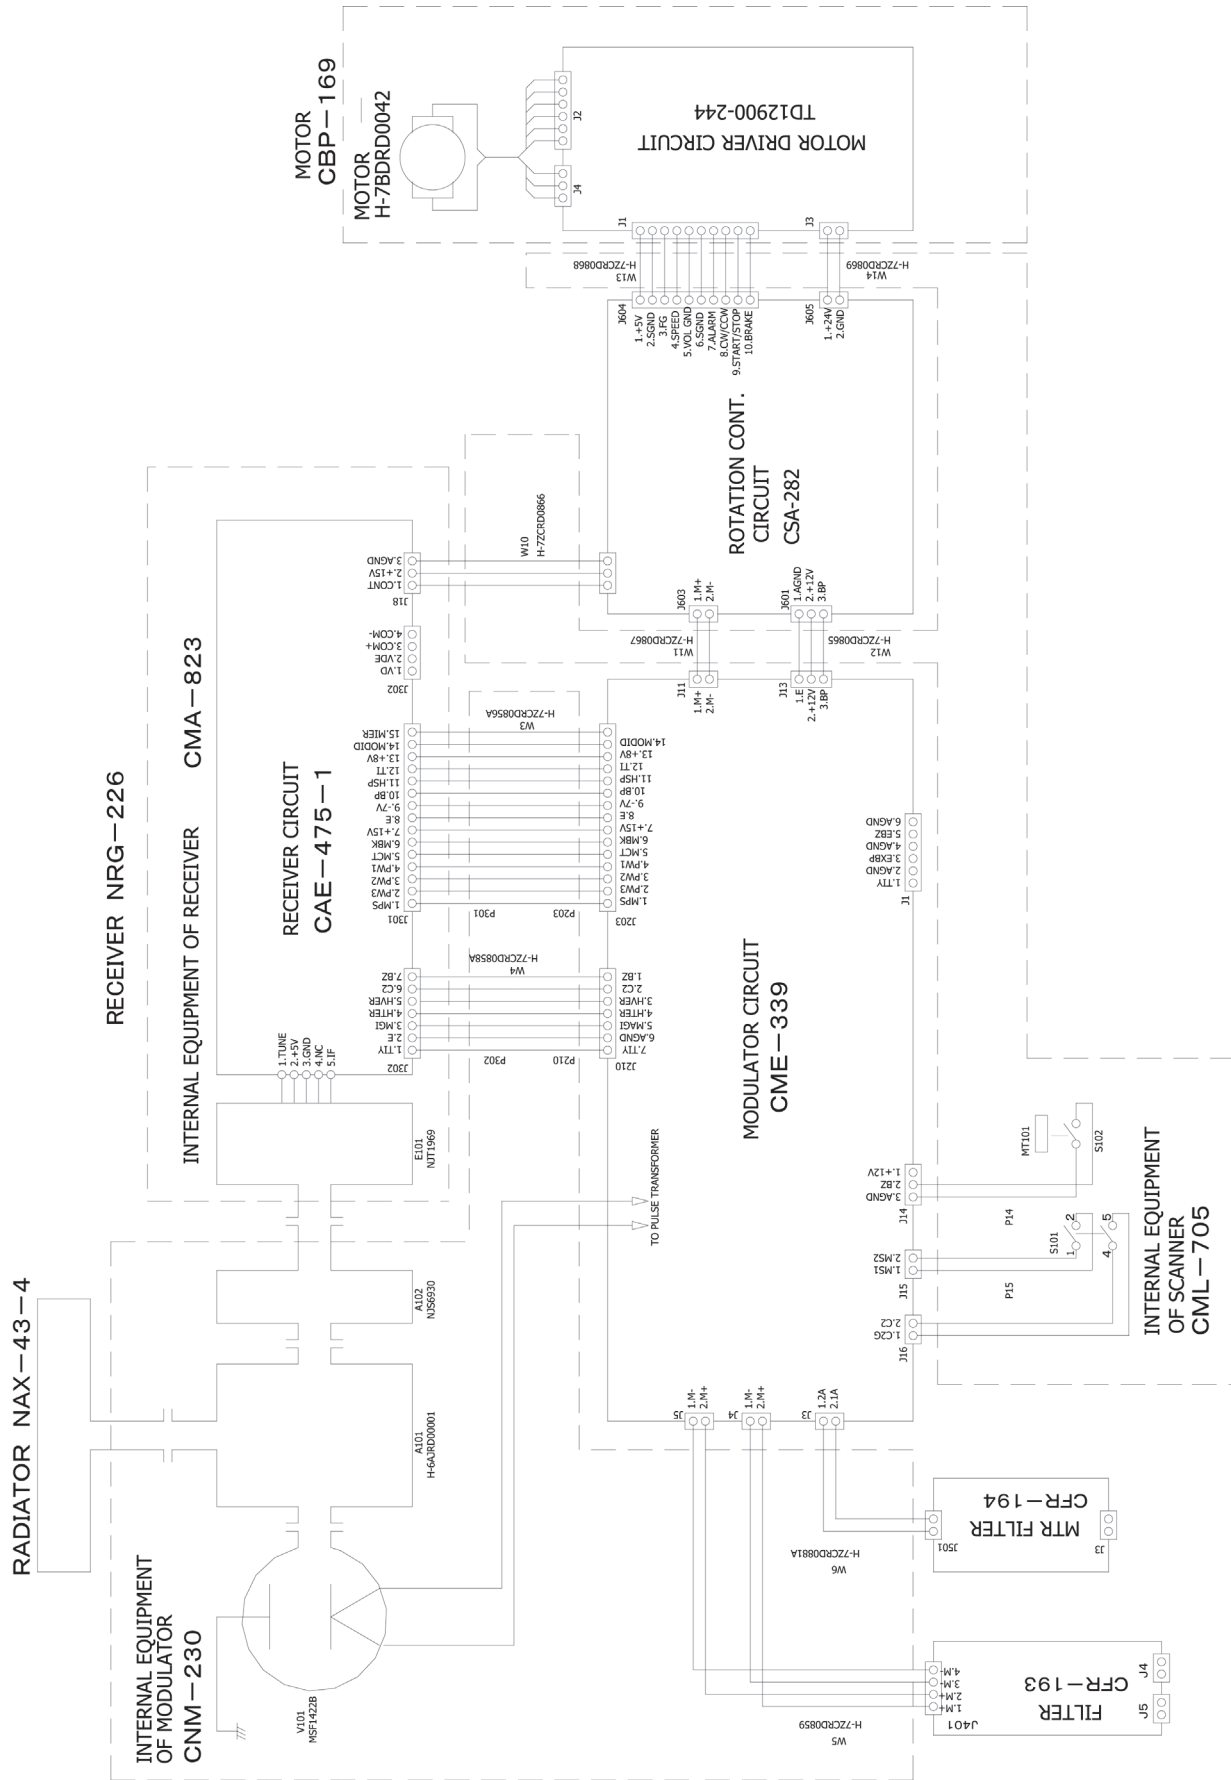

Figure 12 NKE-2062HS Scanner Unit Interconnection Diagram
- FIGURE 12 NKE-2062HS SCANNER UNIT INTERCONNECTION DIAGRAM